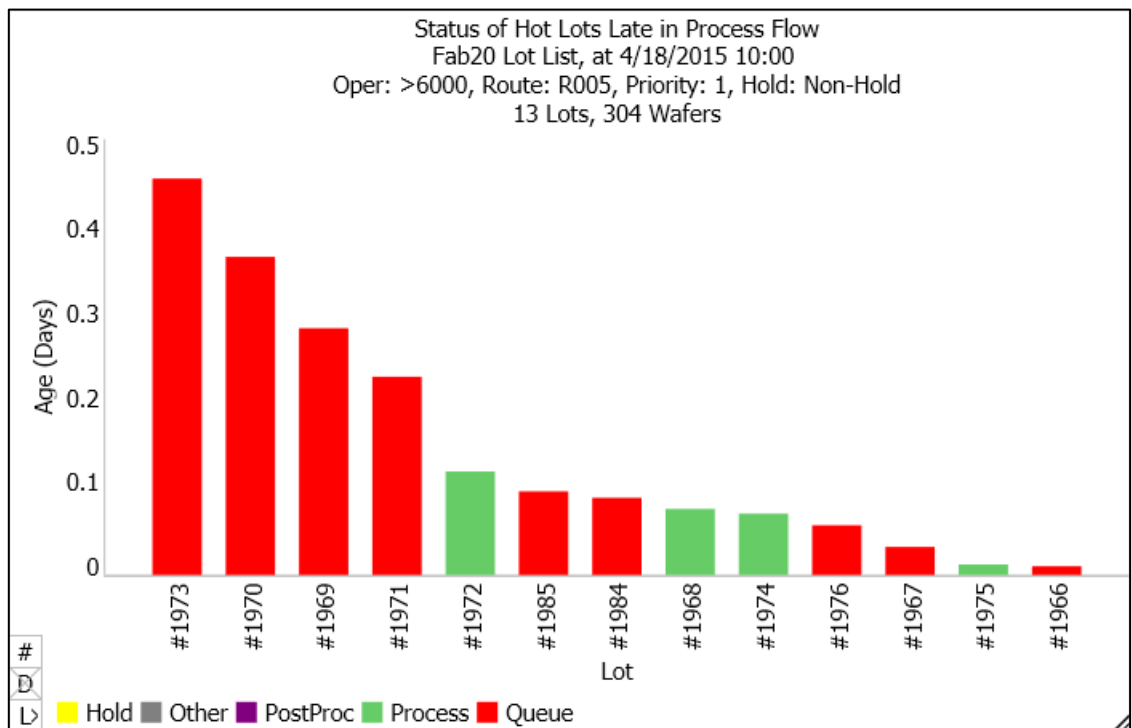

Figure 3. FabTime chart showing status of hot lots late in the process flow
- List of hot lots in queue and how long each has been waiting at the current operation, as shown at the top of the next page in Figure 3.